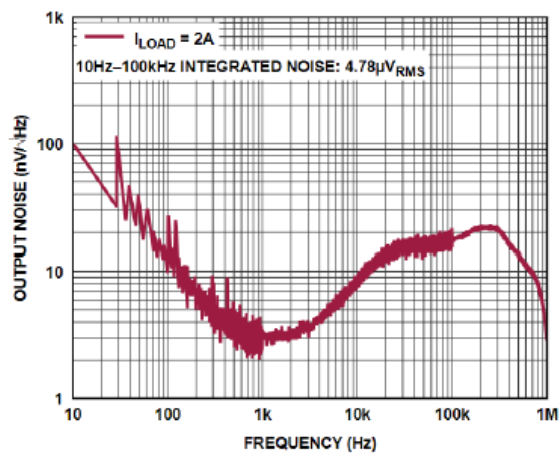

Figure 4. Noise Spectral Density
- Class B limit. In addition to the excellent EMI performance, the regulator also features ultra-low noise over a wide frequency range, as is shown in Figure 4.